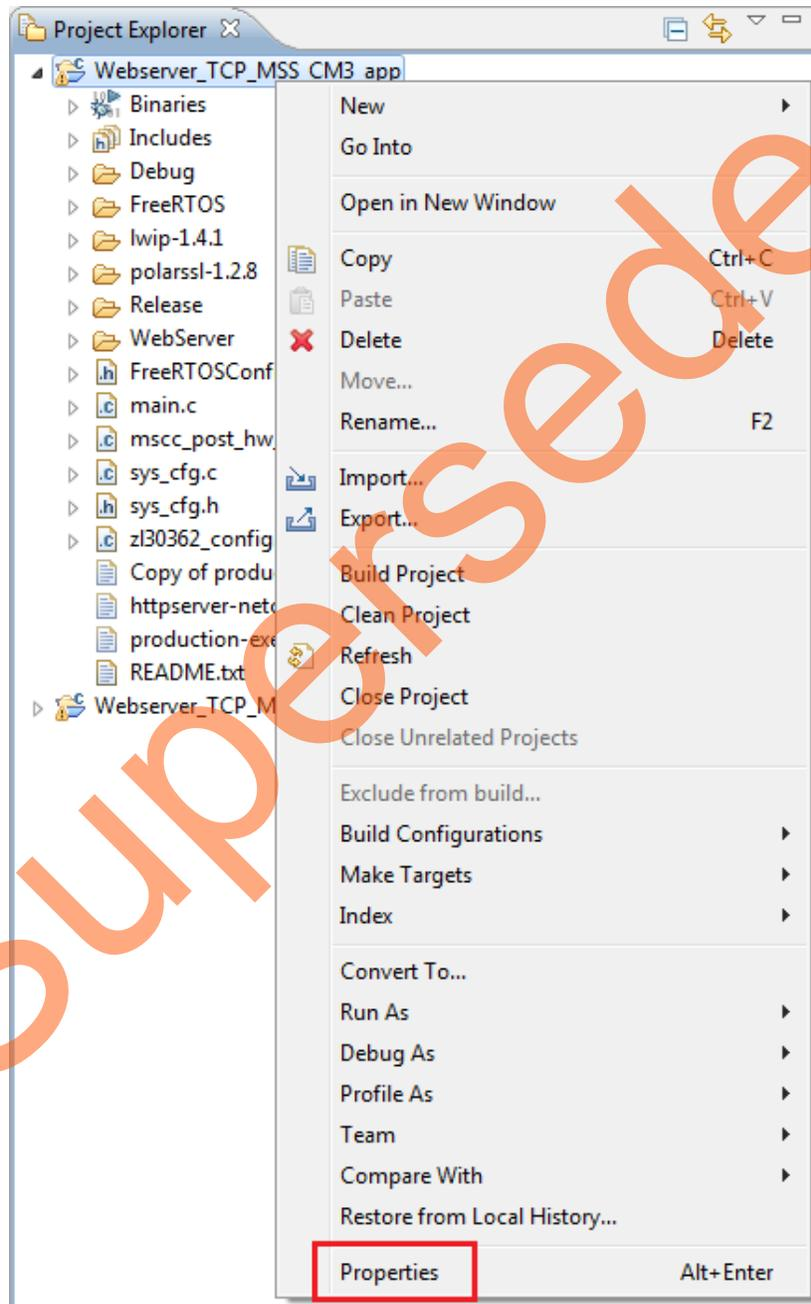

Figure 1 • Project Explorer Window of SoftConsole Project
1. To run the design in Static IP mode, right-click the **Webserver\_TCP\_MSS\_CM3\_app** in the **Project Explorer** window of SoftConsole project and select **Properties** as shown in Figure 1.